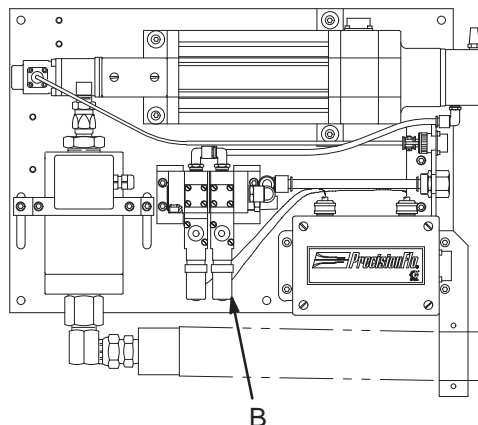

Fig. 29
5. Refer to Fig. 29. and perform the following steps to open the dispense device and relieve fluid pressure:
- a. Manually actuate the plunger on the solenoid (B), which opens the dispense device, to relieve fluid pressure.